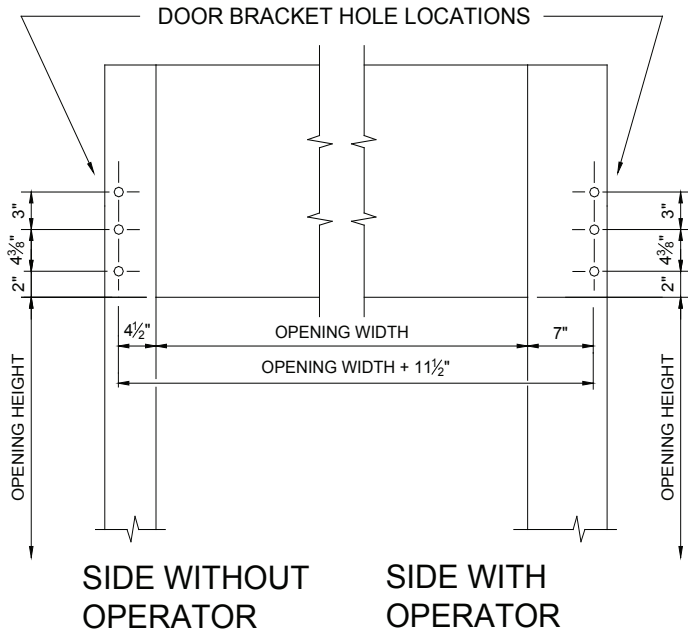

Figure 3.
3.3 Pre-drill jambs to accept door brackets; 7/16" diameter holes for 3/8" nuts and bolts in steel jambs, proper size pilot hole for 3/8" lag bolt in wood jambs. Hole locations are shown in Figure 3. Do not pre-drill jambs for door guide installation. NOTE: Door must be hung level to ensure proper tracking.
5.1 Mount the Right and Left bracket according to the spacing in Figure 3. Make sure there is enough spacing for the reduced-drive chain hoist on the chosen side of the door assembly. Fasten using the pre-drilled holes and fasteners described in Section 3.